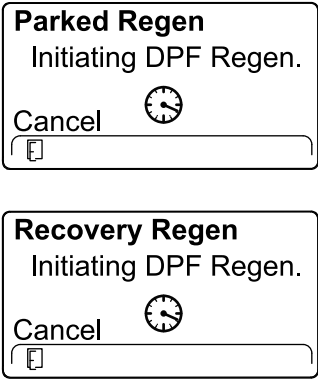

Figure 65
5. The InfoCenter displays the INITIATING DPF REGEN message (Figure 65).